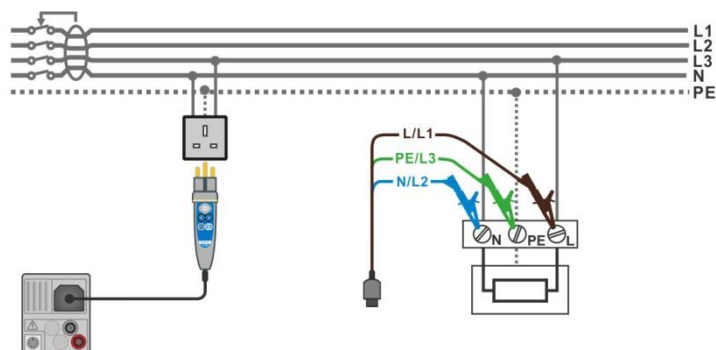

Figure 7.44: Connection of Plug commander and 3-wire test lead
- Connect test leads or Plug commander to the object under test, see **Figure 7.44**.